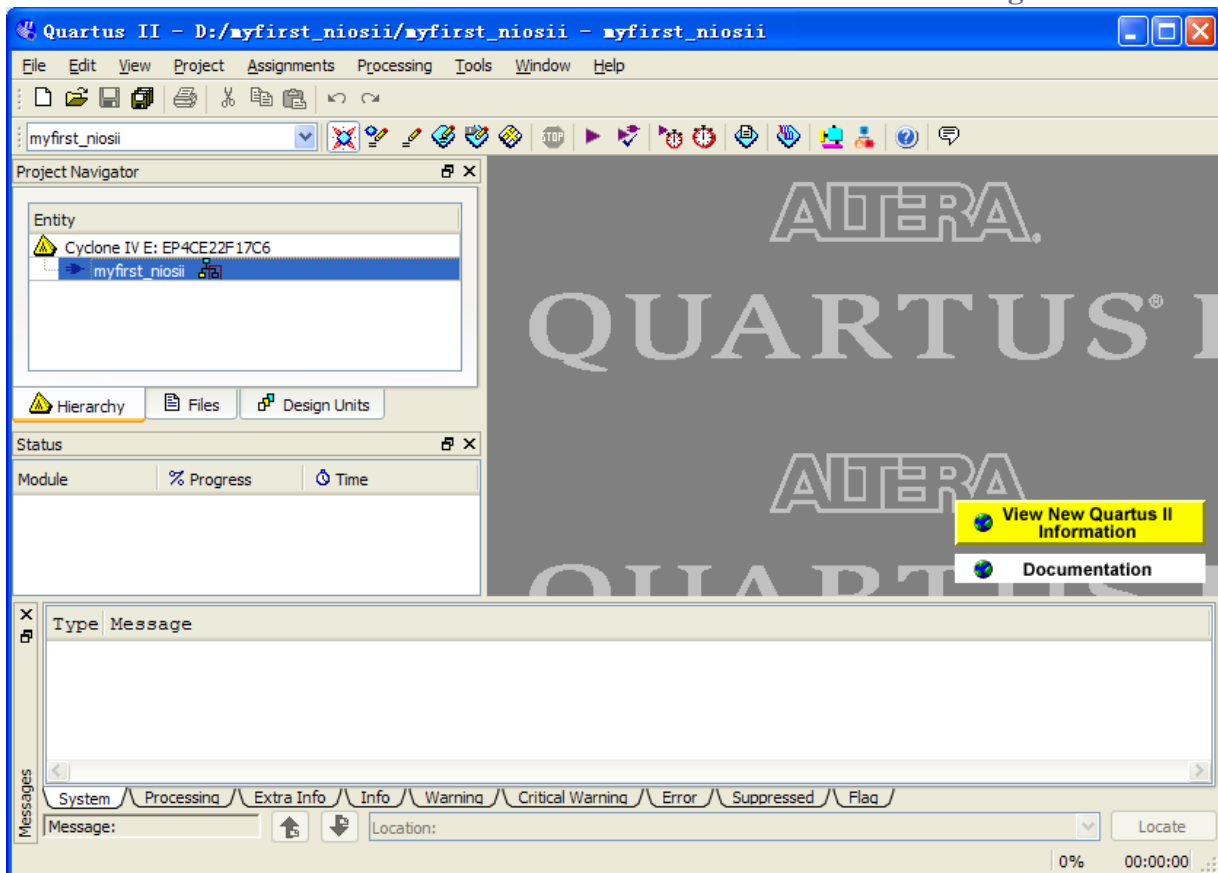

Figure 7-39 Exit SOPC
24. Click **Exit** to exit the SOPC Builder and return to the window as shown in Figure 7-39.